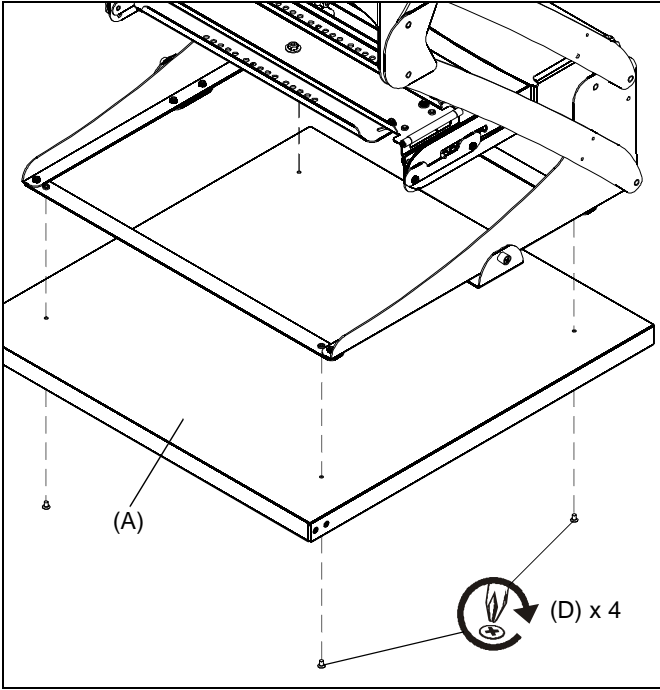

Figure 5
9. Attach tile support door (A) to SL-236 using four 10-24 x 5/16" Phillips flat head screws (D). (See Figure 5)